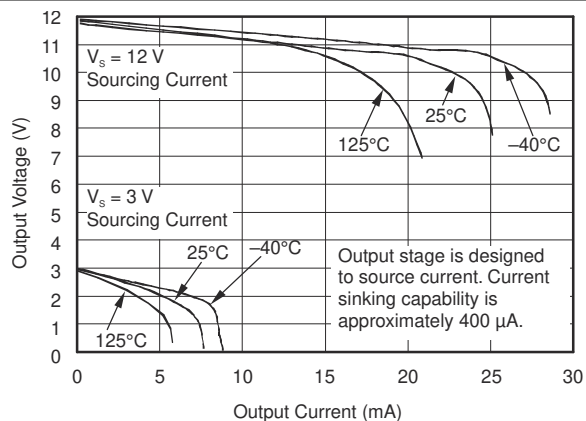

图 6-7. Positive Output Voltage Swing vs Output Current
- (1) Total output error includes effects of gain error and V_{OS} .
- (2) See 图 6-7.
- (3) Specified by design
- (4) For details on this region of operation, see 节 7.4.2.